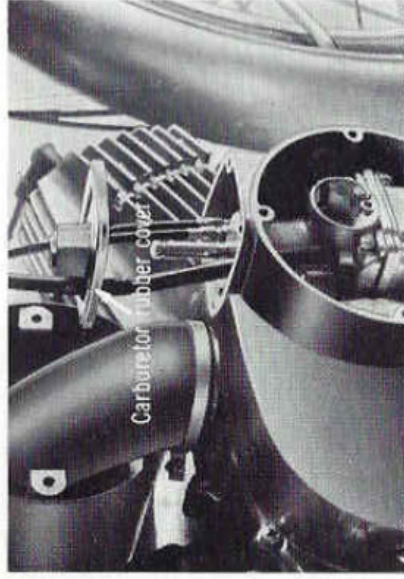

Fig. 8-1-7
10. Remove **carburetor cover** by loosening 4 screws with cross driver. Unscrew 4 carburetor rubber cover retaining plate screws and slip up **carburetor rubber cover** together with retaining plate along cables. Remove rubber plug from engine right cover and unscrew carburetor clip bolt with plain screw driver. Take out **carburetor** from engine right cover and then unscrew carburetor mixing chamber cap, loosen starter cable adjuster with 12 mm wrench, remove fuel line after sliding up a clip, remove 2 air vent pipes from carburetor and carburetor can be removed. At the same time remove overflow pipe from carburetor as well. (Fig. 8-1-7, 8)